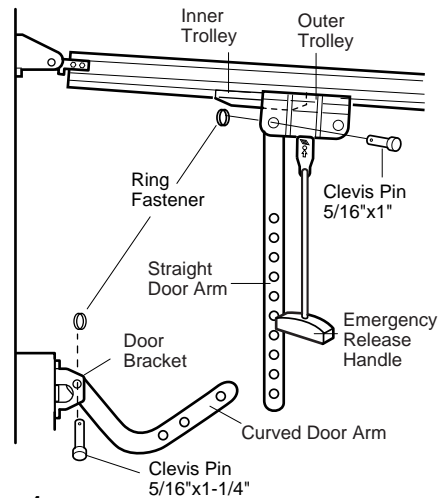

Figure 1
- Mark and drill 5/16" (0.78 cm) left and right fastening holes. Secure the bracket as shown in Figure 1 if there is vertical reinforcement.
- Make sure garage door is fully closed. Pull the emergency release handle to disconnect the outer trolley from the inner trolley. Slide the outer trolley back (away from the door) about 2" (5 cm) as shown in Figures 1, 2 and 3.
• **Figure 1:**